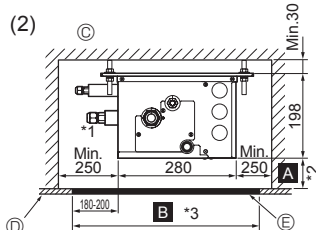
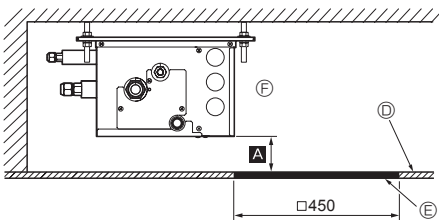

Fig. 4-6
Fig. 4-7
(2) Side View (Fig. 4-6, Fig. 4-7)
In the case of "450", prepare a maintenance hole at a PCB side (as it is shown in Fig. 4-7), and "Min. 300 mm" is needed as distance Ⓐ.